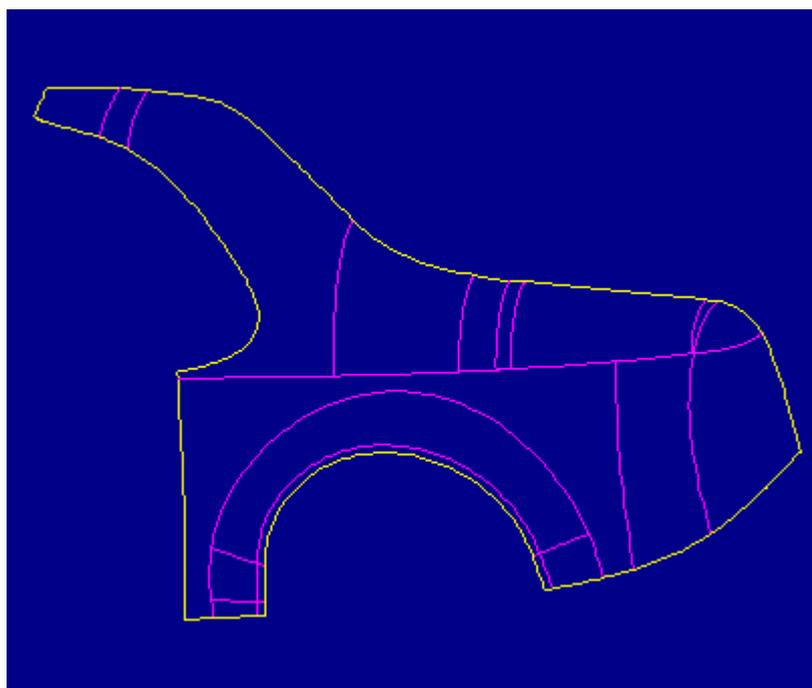

Figure 41
26. In the SELECT SURF menu select **Done-Return** to regenerate the import feature. Notice in Figure 41 that after returning from the editing process, all surfaces have been joined into the quilt.